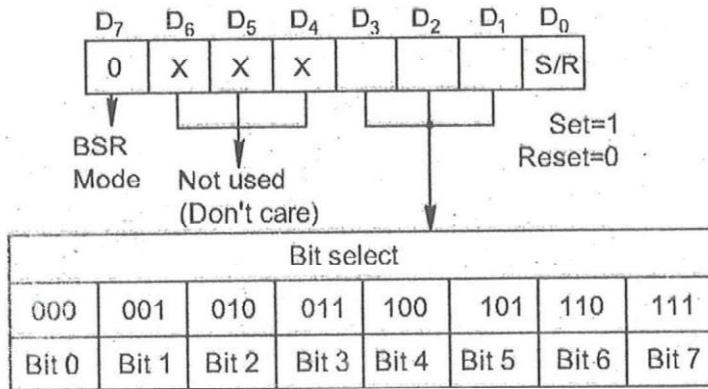

Fig 5.8 Control word format for BSR mode
- This mode is related to only port C. The bits of port C can be controlled directly by the microcontroller. A control word with bit D7 = 0 is called a BSR Control word. • Control word format for BSR mode as shown in the fig 5.8.